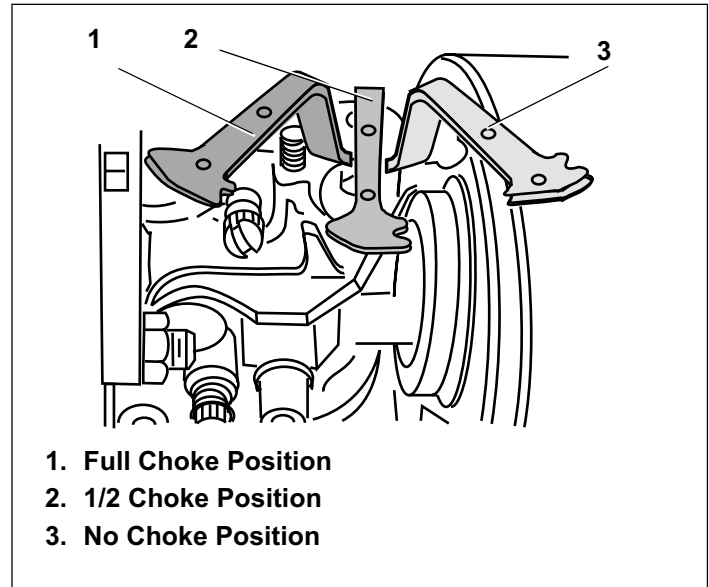

Figure 27. Horizontal Mounted Choke Control
- a. Momentarily move Choke Control to "1/2 CHOKE" position until engine runs smoothly. See Figures 27 and 28.